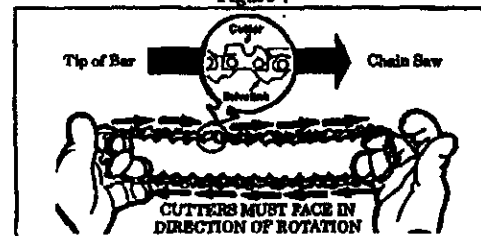

Figure 8
- Hold chain with cutters facing as shown in Figure 8.